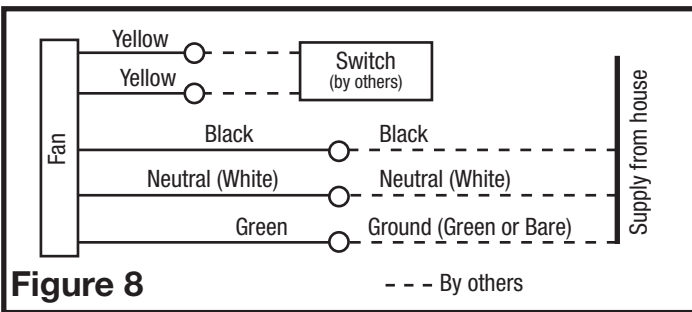

Figure 8
2. **Continuous Ventilation:** For two speed fans wired for continuous ventilation, connect the White wire of the fan to the White (Neutral) wire from the power source. Connect the ground wire from the house to the green wire from the fan housing. Connect the Black wire of the fan to the Black wire (Hot) from the power source. Connect the Hot Yellow wire from the fan to the input of the switch. Connect the second Yellow wire from the fan to the output side of the switch. Closing the switch will change from normal to high speed (Figure 8). A manual override switch (not included) can be added inline with the black (hot) line to provide a manual fan Off function. If this switch is placed in the Off position none of the unit's functions will operate.